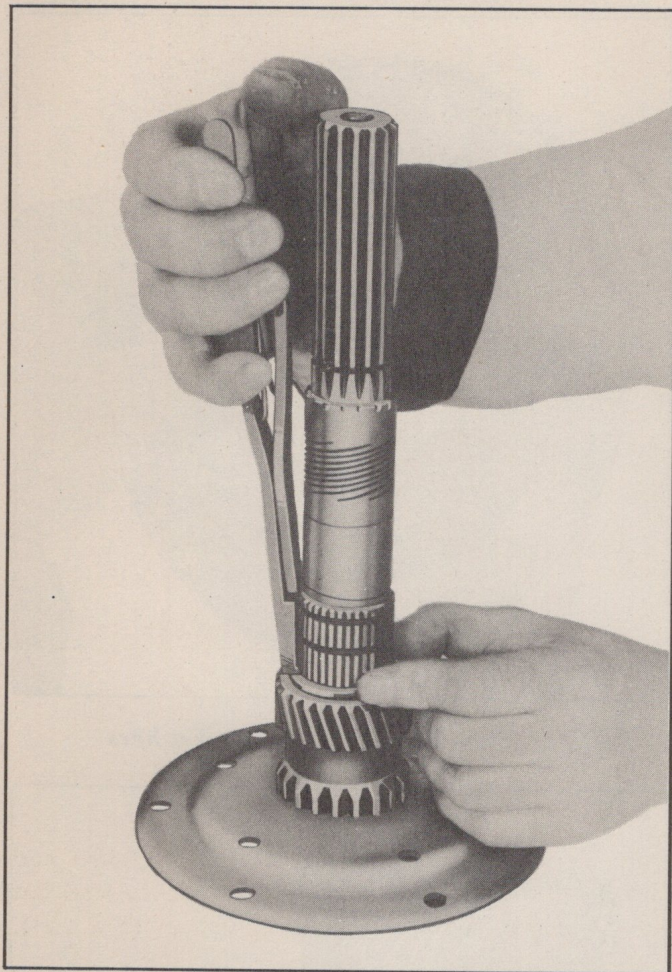

Fig. 258—Installing Reverse Planet Carrier Snap Ring
4. Install reverse planet carrier snap ring (Fig. 258).